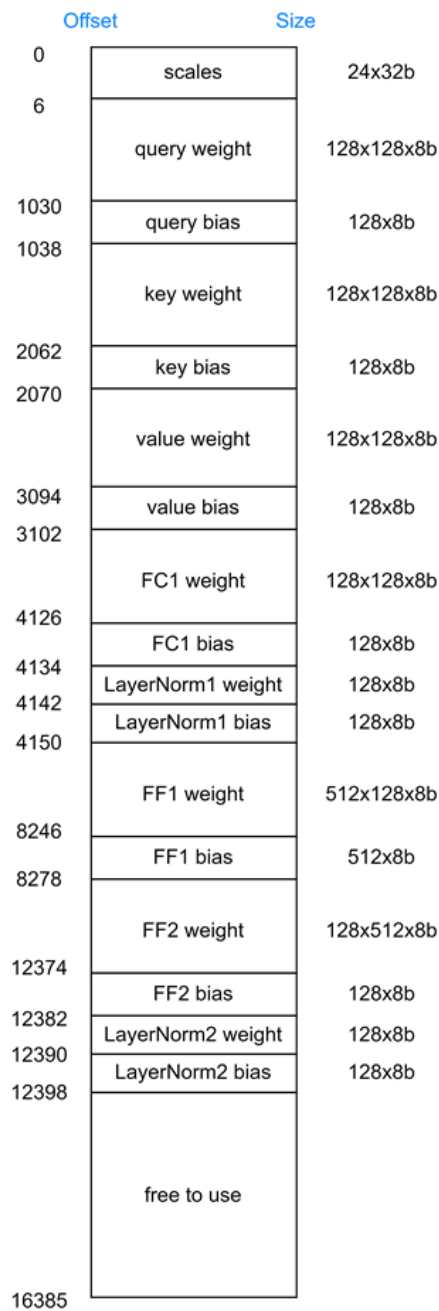
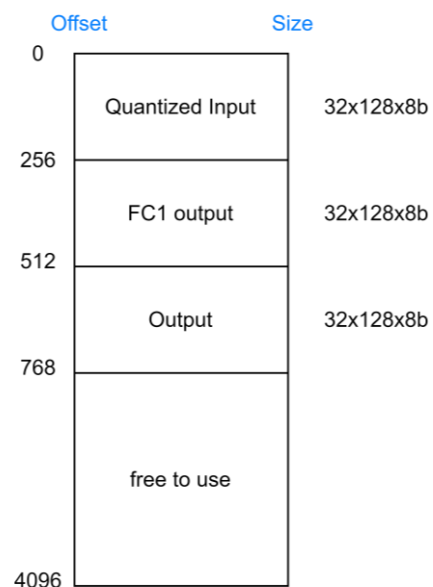

Figure 5: Layout of weight SRAM.
Figure 6: Layout of the activation SRAM
the parentheses indicate the specific scale used for that re-quantization operation. In each linear operation, the names inside the parentheses indicate the specific weight and bias names required for that operation (Figure 5, Table A.1). The dashed boxes (Quantized input, FC1 output, Output) represent the activation data stored in the SRAM, as shown in Figure 6.
3. Figure 5 shows the layout of the weight SRAM. For **scales**, we store **four 32-bit scales in each address**. For **weights**, we store **sixteen 8-bit weights in each address**. For **biases**, **sixteen 8-bit bias** is stored in every address.
4. Figure 6 shows the layout of activation SRAM. **The testbench will load the quantized input from offset 0 to offset 255 in SRAM**. Each **address holds sixteen 8-bit inputs**. You should **place sixteen 8-bit quantized data in every address for FC1** output from offset 256 to offset 511 in SRAM and the results of the whole BertEncoder layer from offset 512 to offset 767 in SRAM.
5. You are free to use the space marked as "free to use" in Figure 5 and Figure 6 for any purpose. During validation, we will not verify the contents of those memory blocks.
6. You should use the testbench data to validate your design. The testbench data includes the quantized input, weight, bias, quantization scale, and golden data, which have been pre-processed to match the format in Figures 5 and 6. **In addition, please check TODO in testbench to replace your own file name and the sequence length.**